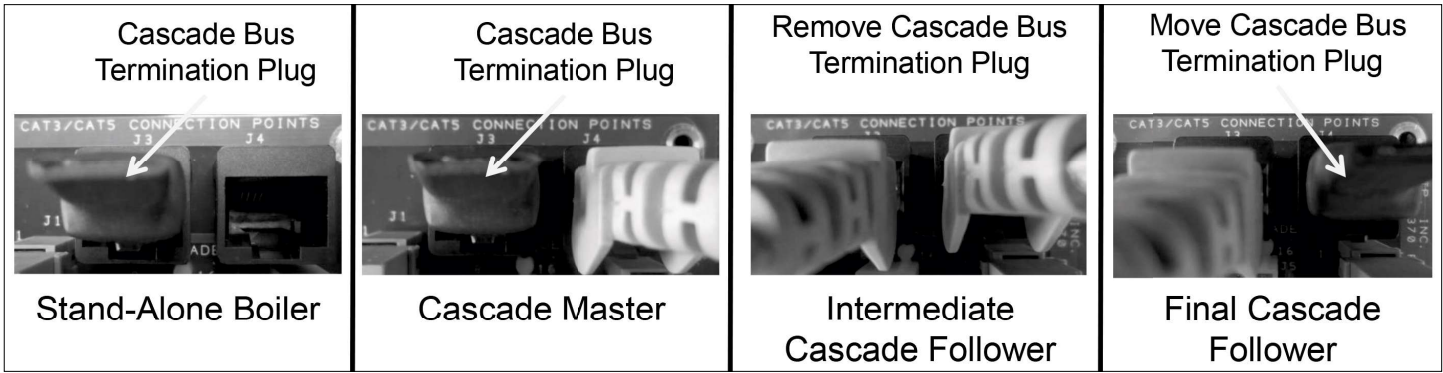

Figure 32 - Cascade Termination Plug Detail
1. A Cascade Bus Termination Plug has been installed on the customer connection board of this boiler. The purpose of this plug is to stabilize communication between multiple boilers and reduce electrical "noise". See Figure 32 for Cascade Bus Termination Plug installation detail.
NOTE: It is important that the termination plug in multiple boilers (cascaded units) be installed as depicted in Figure 32. Leave the plug installed in the J6 port on the Master boiler. Remove the plug on intermediate Follower boilers. Move the plug to the J7 port on the final Follower boiler.
NOTE: All termination plugs must be installed as described in Figure 32 to ensure proper cascade operation.